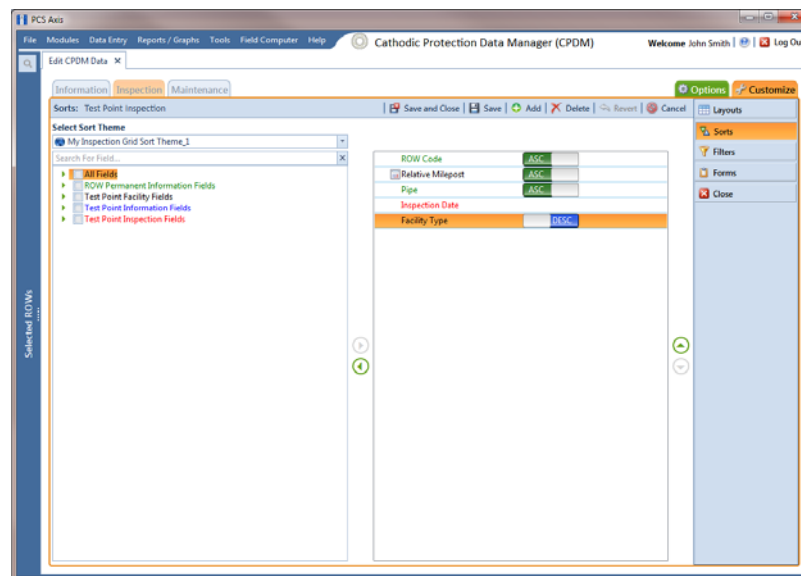

Figure 7-86. Sorts
- 5 Click the **Customize** tab  then the **Sorts** button  to open the *Sorts* page (Figure 7-86).